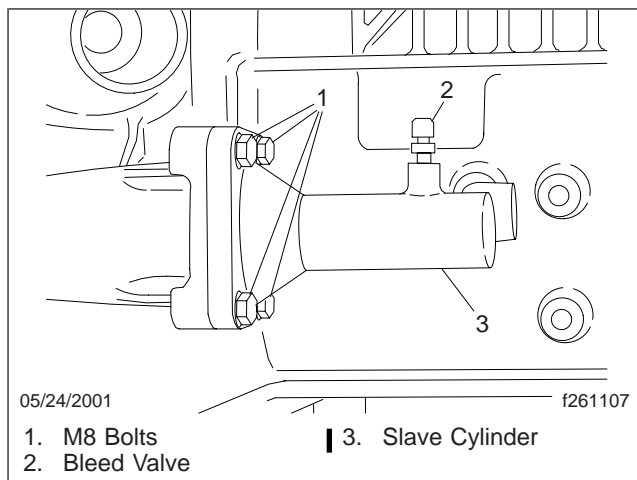

Fig. 8, Hydraulic Clutch Slave Cylinder
7. Remove the bolts that attach the clutch slave cylinder to the mounting flange on the gear case. Move the slave cylinder out of the way. See Fig. 8.